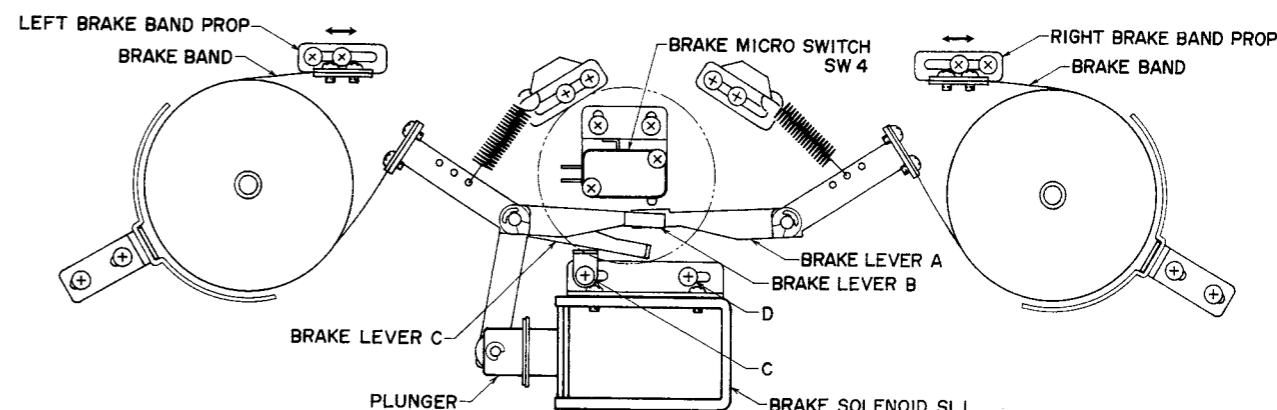
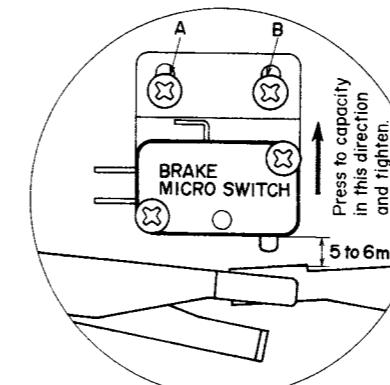

Fig. 5
Fig. 6
- As shown in Fig. 6, press brake micro switch as far as it will go toward the top of the mechanical frame, and tighten screws A and B.
- Move the Right Brake And Prop shown in Fig. 5 so that the gap between Brake Lever A and the body of Brake Micro Switch is 5 to 6mm (See Fig. 6).
- Move the Left Brake Band Prop shown in Fig. 5 so that Brake Lever B and Brake Lever A are simultaneously operated by Brake Lever C.